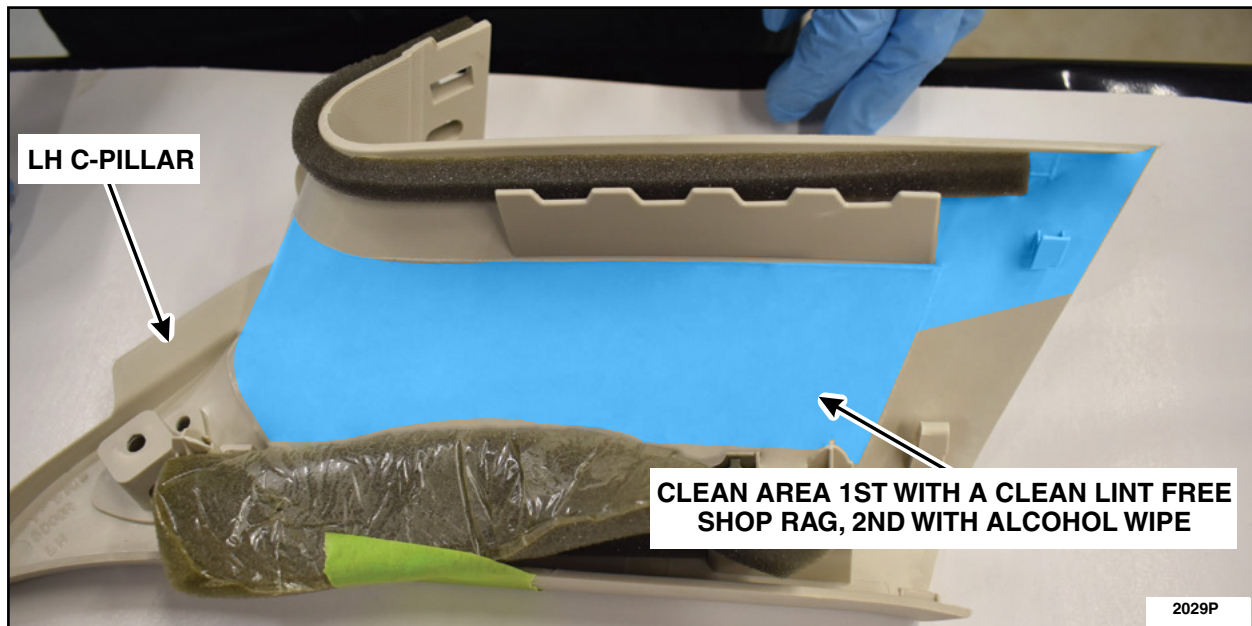

FIGURE 3
4. Clean the highlighted area. See Figure 3.